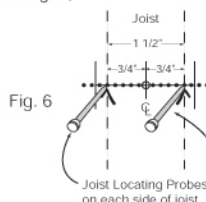

Fig. 6
2.3-Once you have found the outside edges of the joist, insert the two probes into the holes closest to the edges of each side of the joist. (See Fig 6) Measure the distance between them. It should be approximately 1 1/2" between the two edge-locating holes. Split the difference—Measure 3/4" in from each end and mark the location. This location should be the center with a straight line perpendicular to the wall. (See Fig. 6)